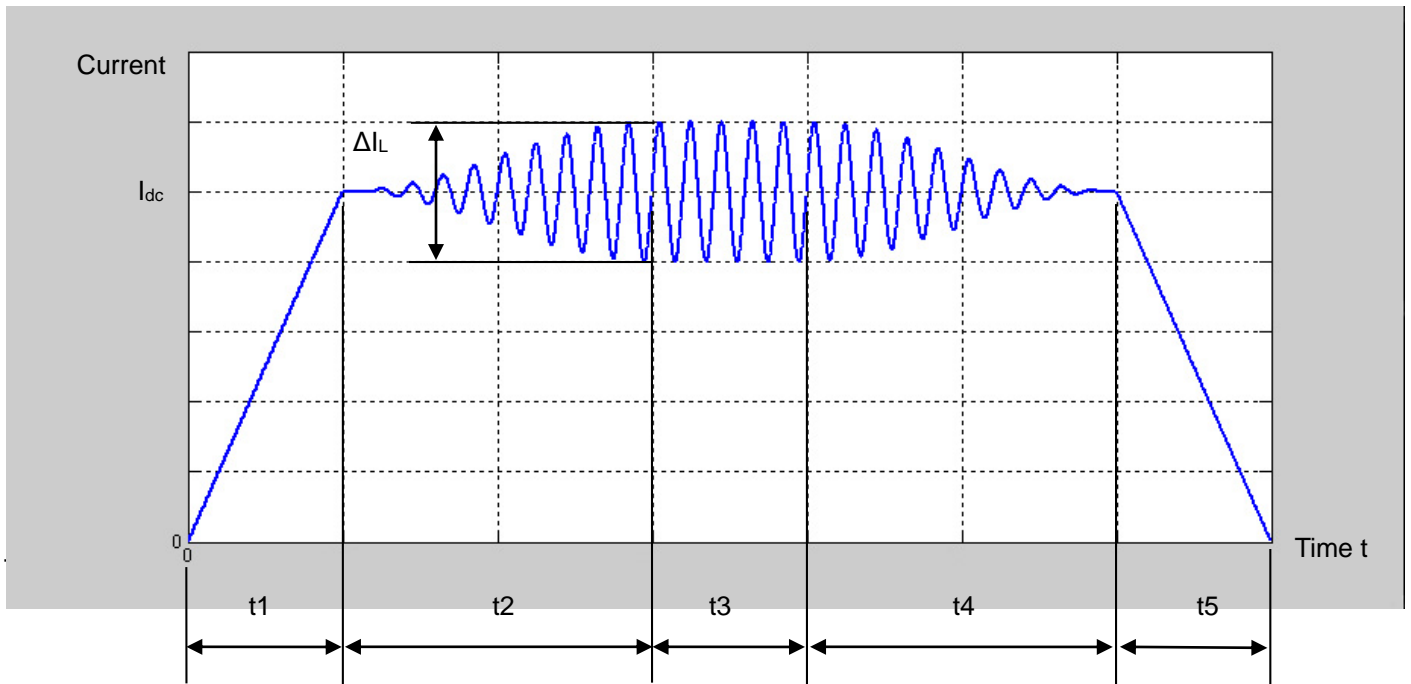

Fig. 2-1 Deterioration with age of current flowing in a sample
- The measurement process of this instrument is explained by reference to Fig. 2-1 Deterioration with age of current flowing in a sample. The horizontal axis represents elapsed time, and the vertical axis represents the magnitude of current.